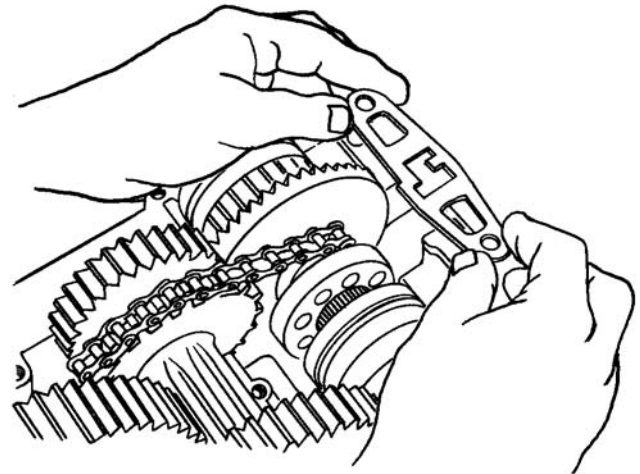

Figure 5-59. Placing Lockout Plate
7. Then the lockplate. See Figure 5-59.